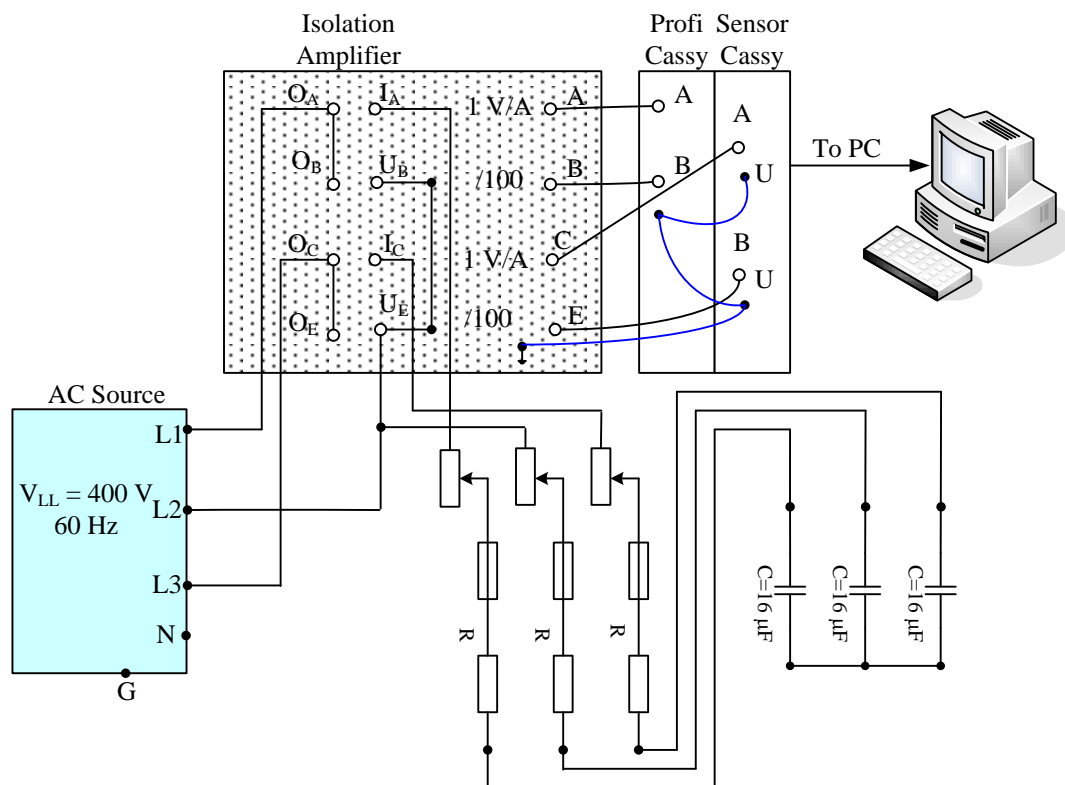

Figure 3 Y-Connected Capacitive Load
14. Now, replace the three phase inductors by three phase capacitors to the load as seen in Figure 3, then turn ON the power supply and repeat record the data (steps 9-12) as shown in Table 2.
18. Now, replace the three phase inductors by three phase capacitors to the load as seen in Figure 3, then turn ON the power supply and repeat record the data (steps 9-12) as shown in Table 4.